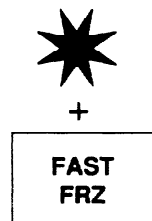

Figure 20
- b. To cancel FAST FREEZE mode before 24-hour automatic re-set, press START pad (*); press FAST FRZ pad again. See Figure 20.